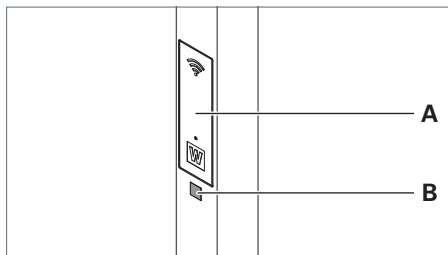

Fig. 22: Scanning QR code.
- ▶ Scan the QR code **B** of the luminaire which is located on the column underneath the service flap **A**, see Fig. 22.